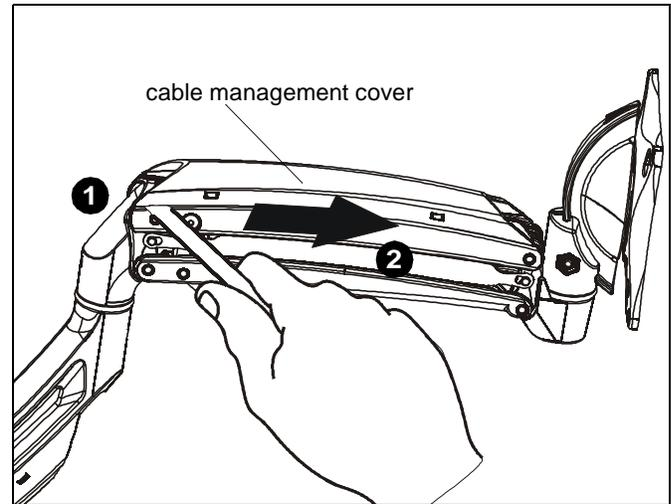
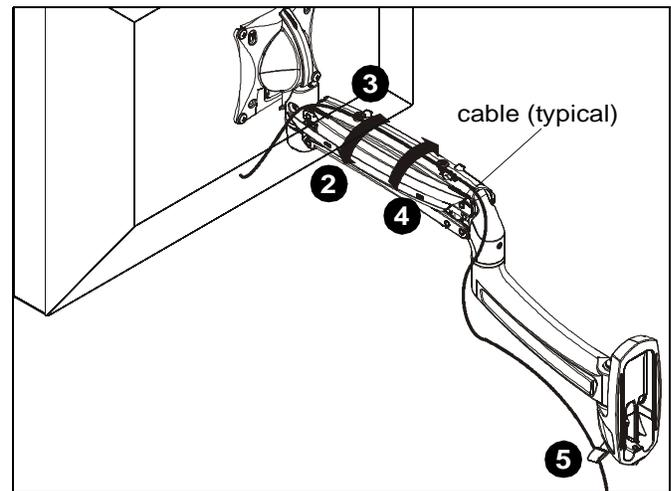

Figure 9
Figure 10
1. Use screwdriver to unhinge tab on either end of cable management cover on upper arm. (See Figure 9)
2. Slide screwdriver along edge of cover until remaining tabs are unhinged and cover is in the "open" position. (See Figure 9) and (See Figure 10)
3. Route cables through cable management channel. (See Figure 9)
4. Close cable management cover on upper monitor arm. (See Figure 10)
5. Route cables through cable management clip on lower arm. (See Figure 10)